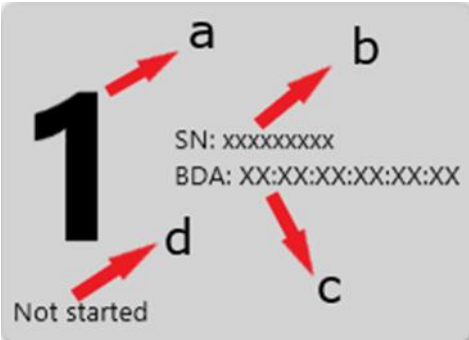

Figure 120. Single DUT tile
- d – Current operation executing (only while tests are running), see Figure 120. If any of the DUTs fails, the current command field indicates the failed test command.